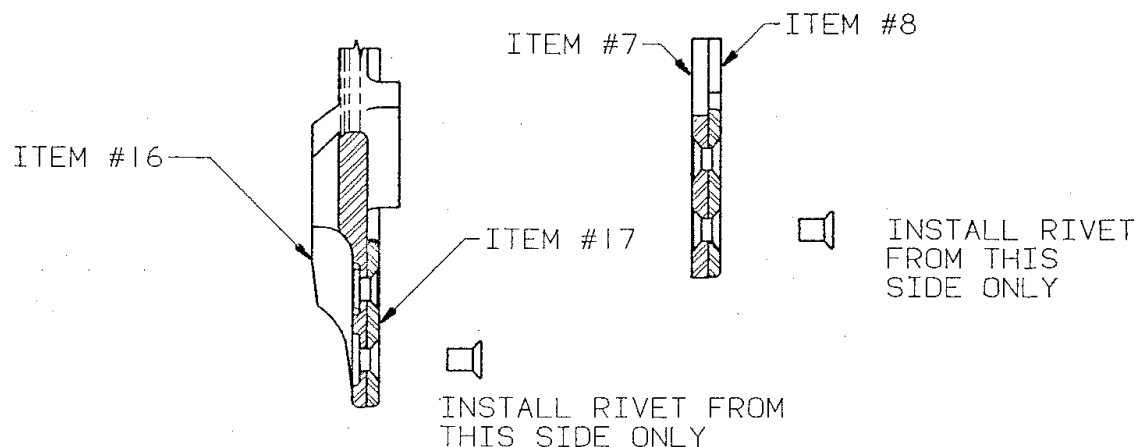

Figure 501
- E. Install the proper Rivet [i.e. a 105-06700 (Items #9 and #18) are used in the Pressure Plate (Item #6) and Back Plate (Item #15) Assemblies while a 105-06800 (Item #14) is used in the Center Stator Assembly (Item #11)] as shown in Figure 501.
- (b) Fabricate upper and lower register plates (Ref. Fig. 501).
- (1) Pressure Plate Assemblies (Item #7) or Stator Assemblies (Item #11) which do not meet the flatness requirements of this manual may be straightened in accordance with the following instructions: